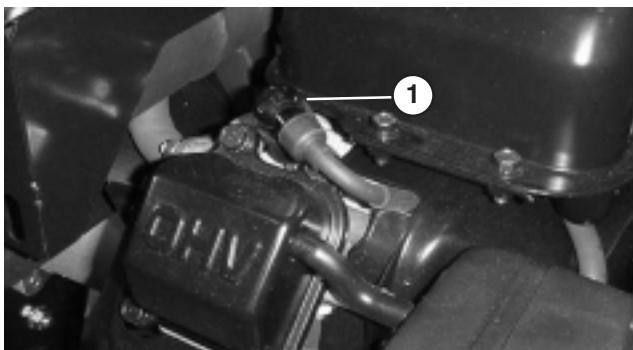

Figure 32
- Pull wire off spark plug (Fig. 32).